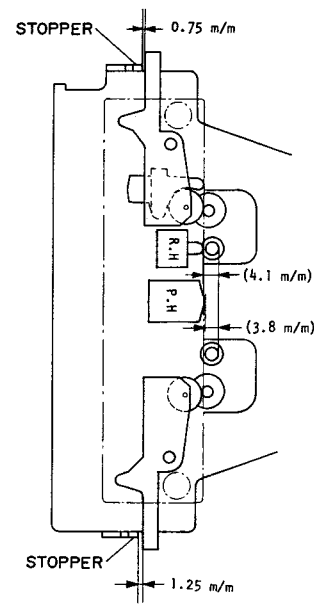

Fig. 6.16. Pressure Roller Adjustment
- (1) Check to insure whether any of the heads is not in contact with the cassette housing.
- (2) Check to insure whether the pressure roller is located in parallel with the capstan shaft (Also check to insure whether the heads are free from dust or dirt, and whether the pressure roller arm is free from bending).
- (3) Check to insure whether the surface of the pressure roller is globular, not straight. Other than the above, concaved, or oiled surface shall be subject to replacement.
- (4) The pressure of the pressure roller shall be $400 \text{ g} \pm 50 \text{ g}$.
- (5) Adjustment of Pressure Roller Timing.
- a. Refer to Fig. 6.16.